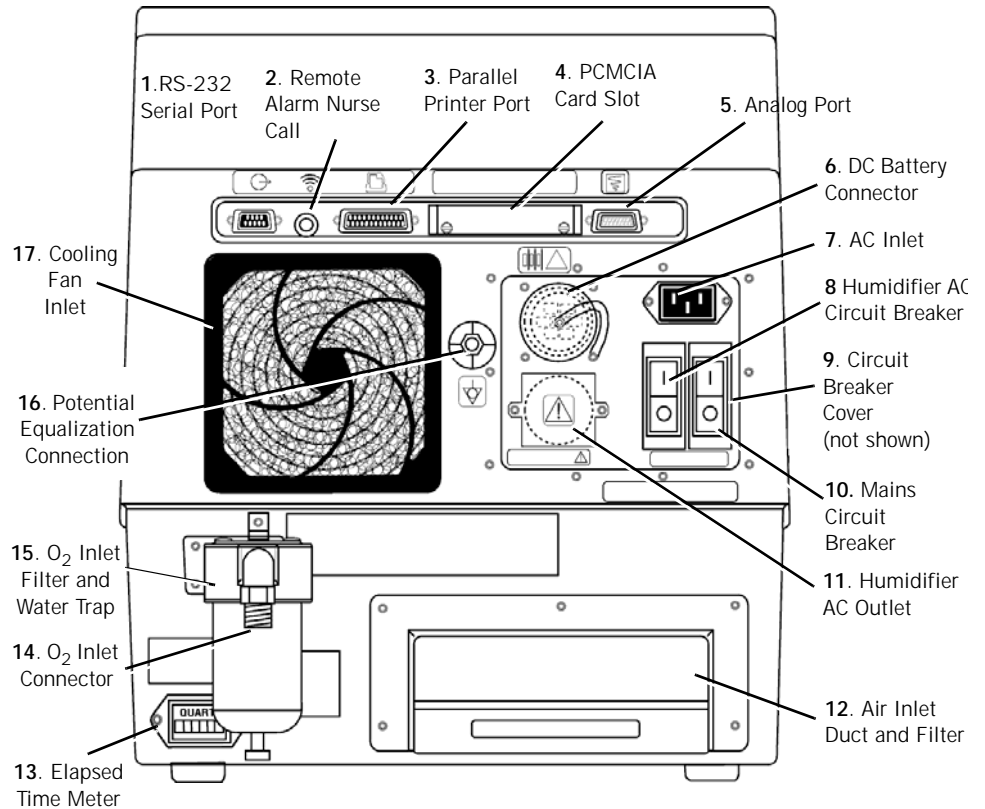

Figure 5-1: Back Panel
2. Connect the AC Power Cord (1) to the AC inlet (3) located on the rear panel. (Refer to Figure 5-1.)
3. After cord is fully inserted, tighten the retaining bracket screw (2) so that the power cord cannot be inadvertently disconnected from the ventilator.
When the switch is in OFF (⊖) position, the ventilator does not provide mechanical ventilation. If the AC plug is connected and the Mains circuit breaker (refer to Figure 5-1) is ON (I), AC power is active and the green Mains circuit indicator on the front panel, is illuminated.
1. Ensure that the Mains Circuit Breaker (refer to Figure 5-1), located on the ventilator back panel, is in the ON (I) position.
2. For 120V applications, if a humidifier is attached to the ventilator, ensure that the Humidifier AC Circuit Breaker (refer to Figure 5-1), located on the ventilator back panel, is in the ON (I) position. A humidifier connection is only available on 100-120VAC ventilators.